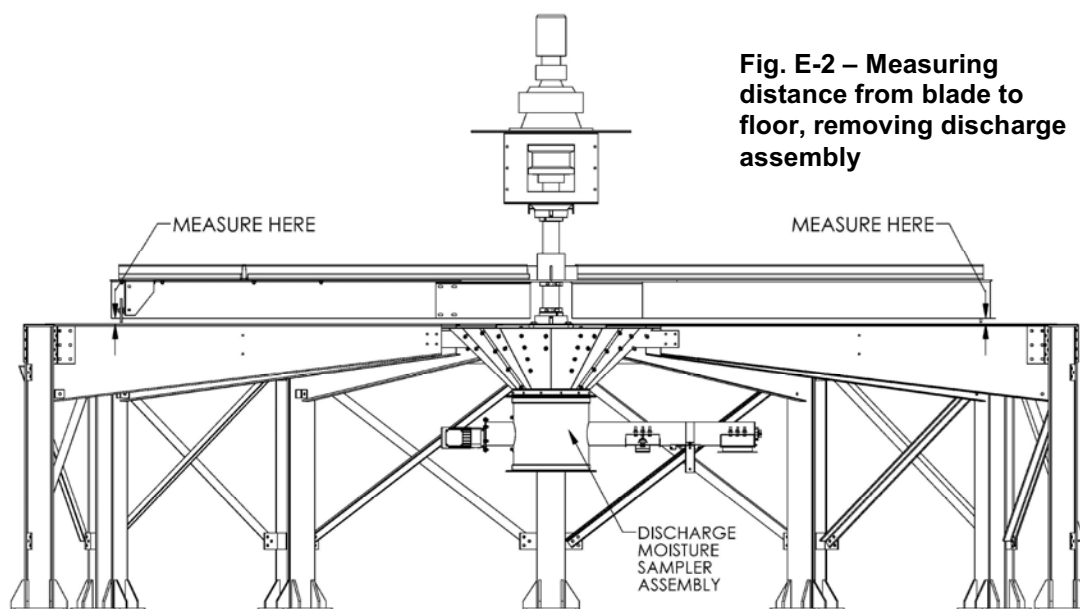
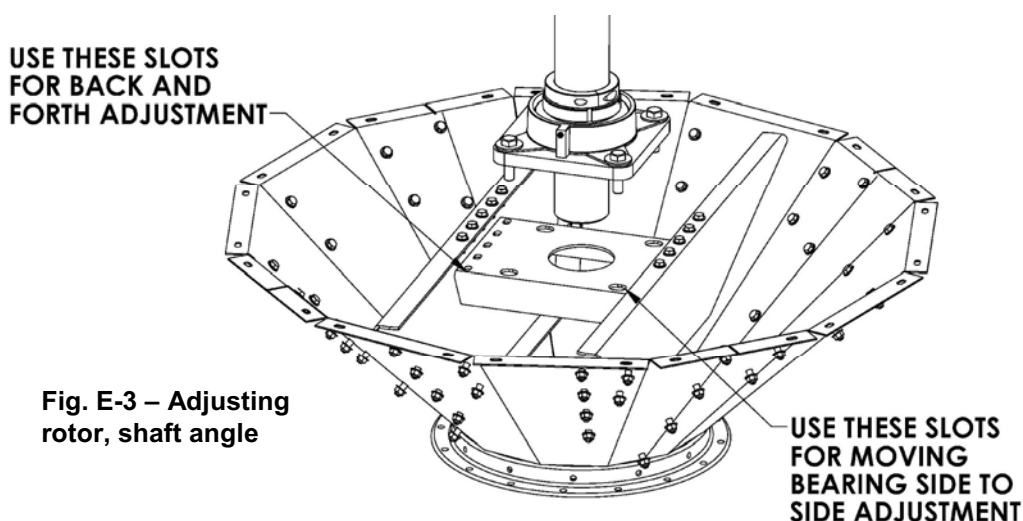

Fig. E-2 – Measuring distance from blade to floor, removing discharge assembly
Fig. E-3 – Adjusting rotor, shaft angle
1. **Make sure bottom of scraper blades are parallel to grain floor.** Choose one scraper blade and measure distance from bottom of blade to grain floor. See Fig. E-2. Run unload rotor and stop it every 90° to check the same measurement. If measurements vary by more than 1/2", adjust angle of rotor and shaft.
2. **Adjust rotor/shaft angle to grain floor.** Start by loosening four bolts for upper bearing, but do not remove bolts. Next, remove discharge moisture sampler assembly. See Fig. E-2. This will provide access to lower bearing bolts and bottom of rotor shaft. Loosen four bolts on lower bearing and 10 bolts on lower bearing plate, but do not remove bolts. Lower bearing bolts are in slots in one direction and bolts holding bearing plate in are slotted in other direction. See Fig. E-3. Using a pry bar from under dryer, push rotor shaft in direction needed to equalize measurements taken in Step 1. **NOTE:** On some tower dryers there may not be slots in lower bearing plate. If necessary, use a grinder to make slots or use slightly smaller bolts for lower bearing. Retighten all bolts once shaft has been adjusted.